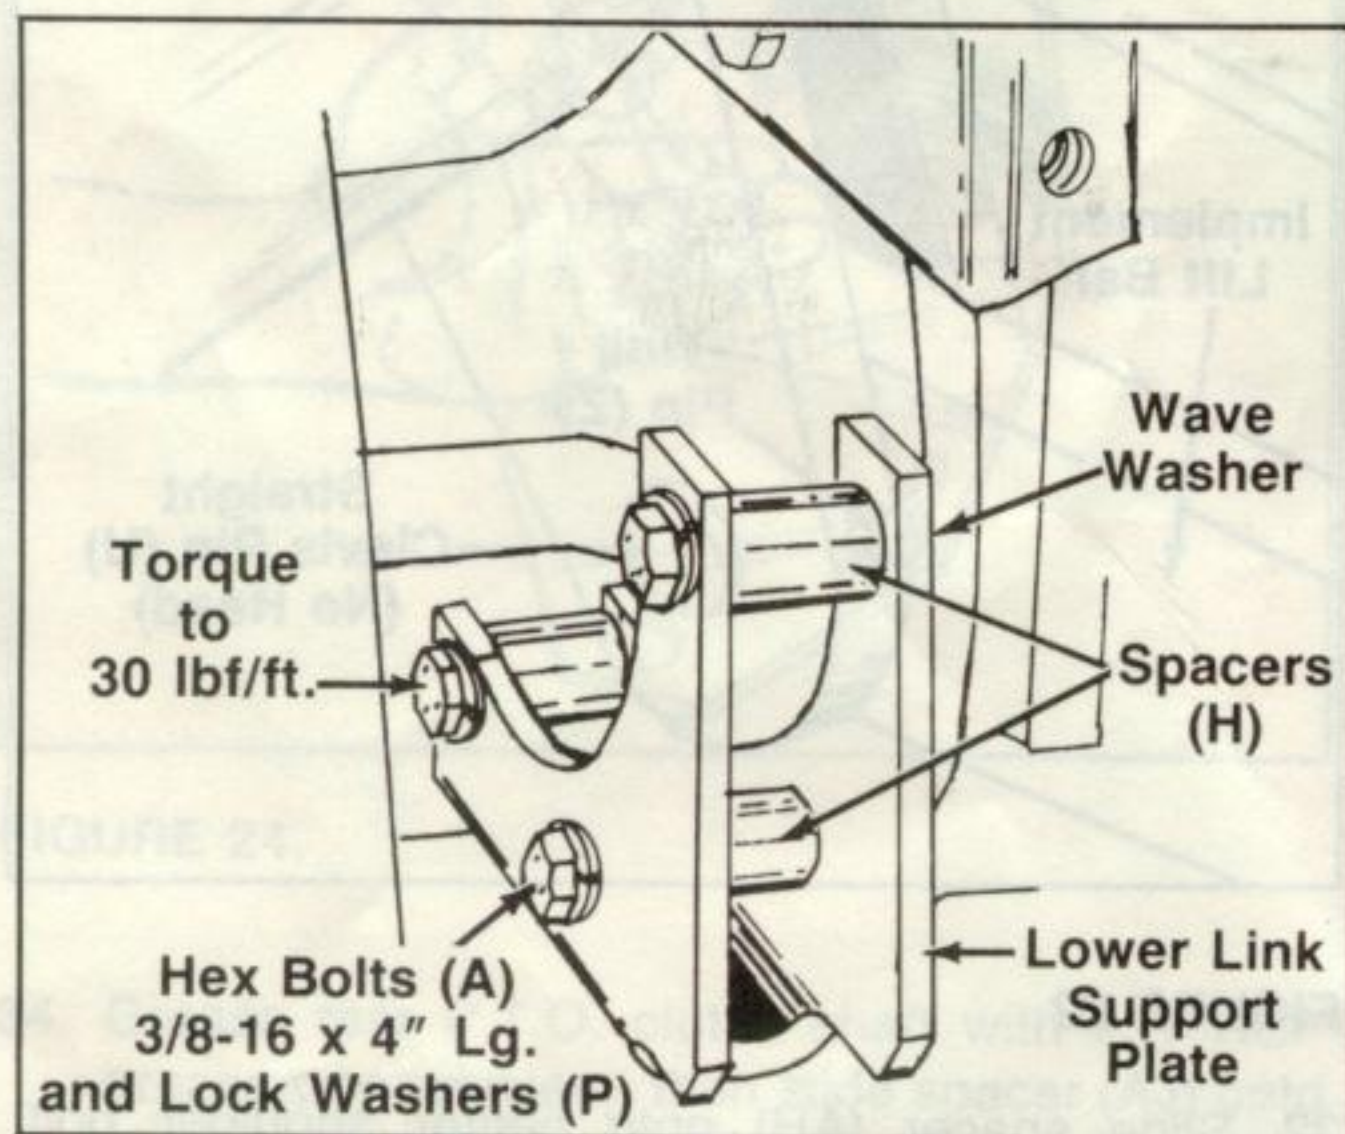

FIGURE 15.—Left Hand Side
26. Attach lower link support plates, spacer bushing (H), wave washers (removed in step 25) and three hex bolts (A) to axle housings. See figures 15 and 16.